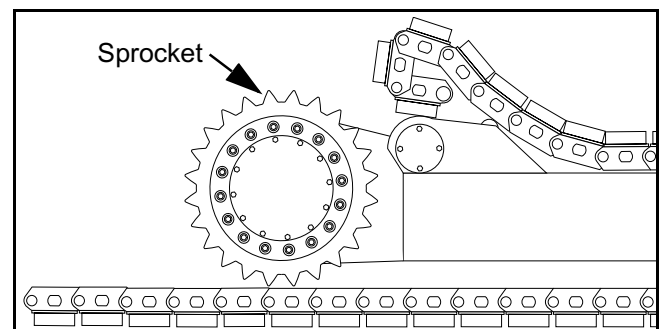

Figure 6 - 11 Remove link pin to separate track
- 3) Split the track and pull ends away from sprocket. (Figure 6 - 11)